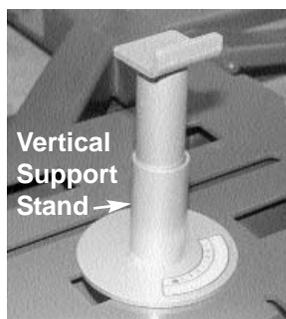

Figure 21
- 1) To avoid personal injury due to vehicle falling, entire circular base of vertical support stand must be positioned squarely on mainframe. (See Figure 21.)